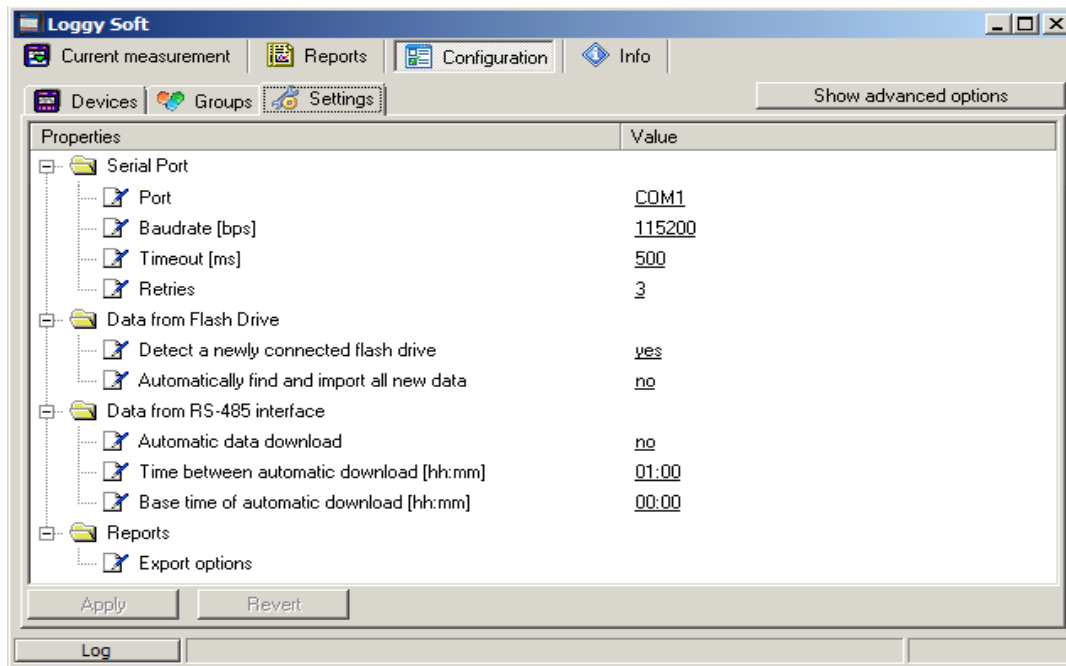

Fig. 3.19. **Configuration - Settings** tab (advanced options hidden)
**Settings** tab (Fig. 3.19) allows to change settings related to serial port and method of data downloading from the USB FlashDisk. The settings list contains following fields: